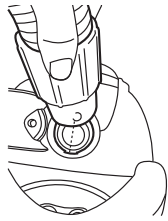

Fig. 2
- Insert the body end of hose into the hose hole on the top of the cleaner. (Fig. 2)
- Line up circular tab on hose cuff with inner groove. (Fig. 2)